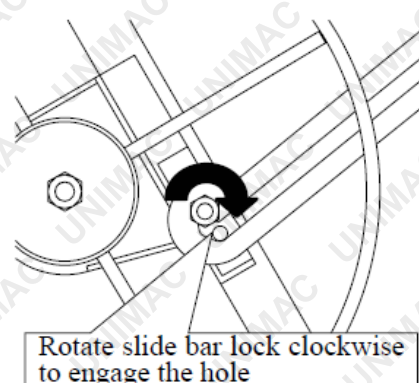

Fig. 9
- Rotate the slide bar lock clockwise into the hole, as shown in Figure 9.
To avoid injury, slide bar lock must be fully engaged if the winch assembly is extended as shown in Figure 9.